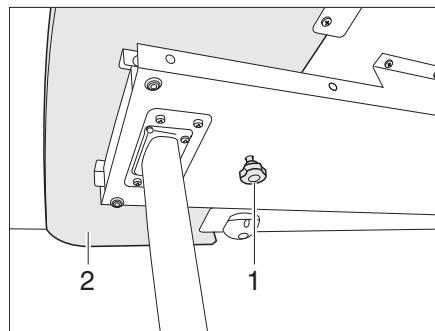
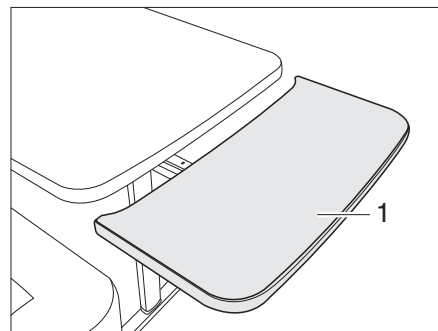

Fig. 91 Lock for table-top extension
Fig. 92 Table-top extension
- Loosen knurled screw (Fig. 91,1).
- Pull out the table-top extension (Fig. 91,2) as far as possible (Fig. 92).
- Guide table-top extension (Fig. 92,1) upwards in a circular movement. The table-top extension lies flush with the table-top.
- Pull table-top extension (Fig. 92,1) away from the table-top as far as it will go and press downwards against the resistance of the retaining springs. The table-top extension moves downwards in a circular movement (Fig. 92).
- Tighten knurled screw (Fig. 91,1).